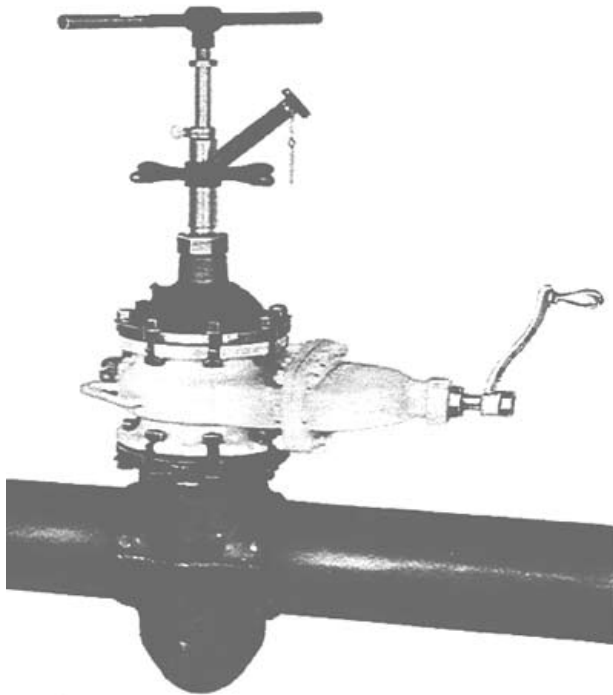

FIGURE 24
10. Advance inserting bar (hold inserting bar down with feed yoke if desired) and screw completion plug into fitting securely by rotating inserting bar **clockwise**. (Place a pipe or rod through the bar head of the inserting bar to aid in tightening the plug.) **Figure 24.**